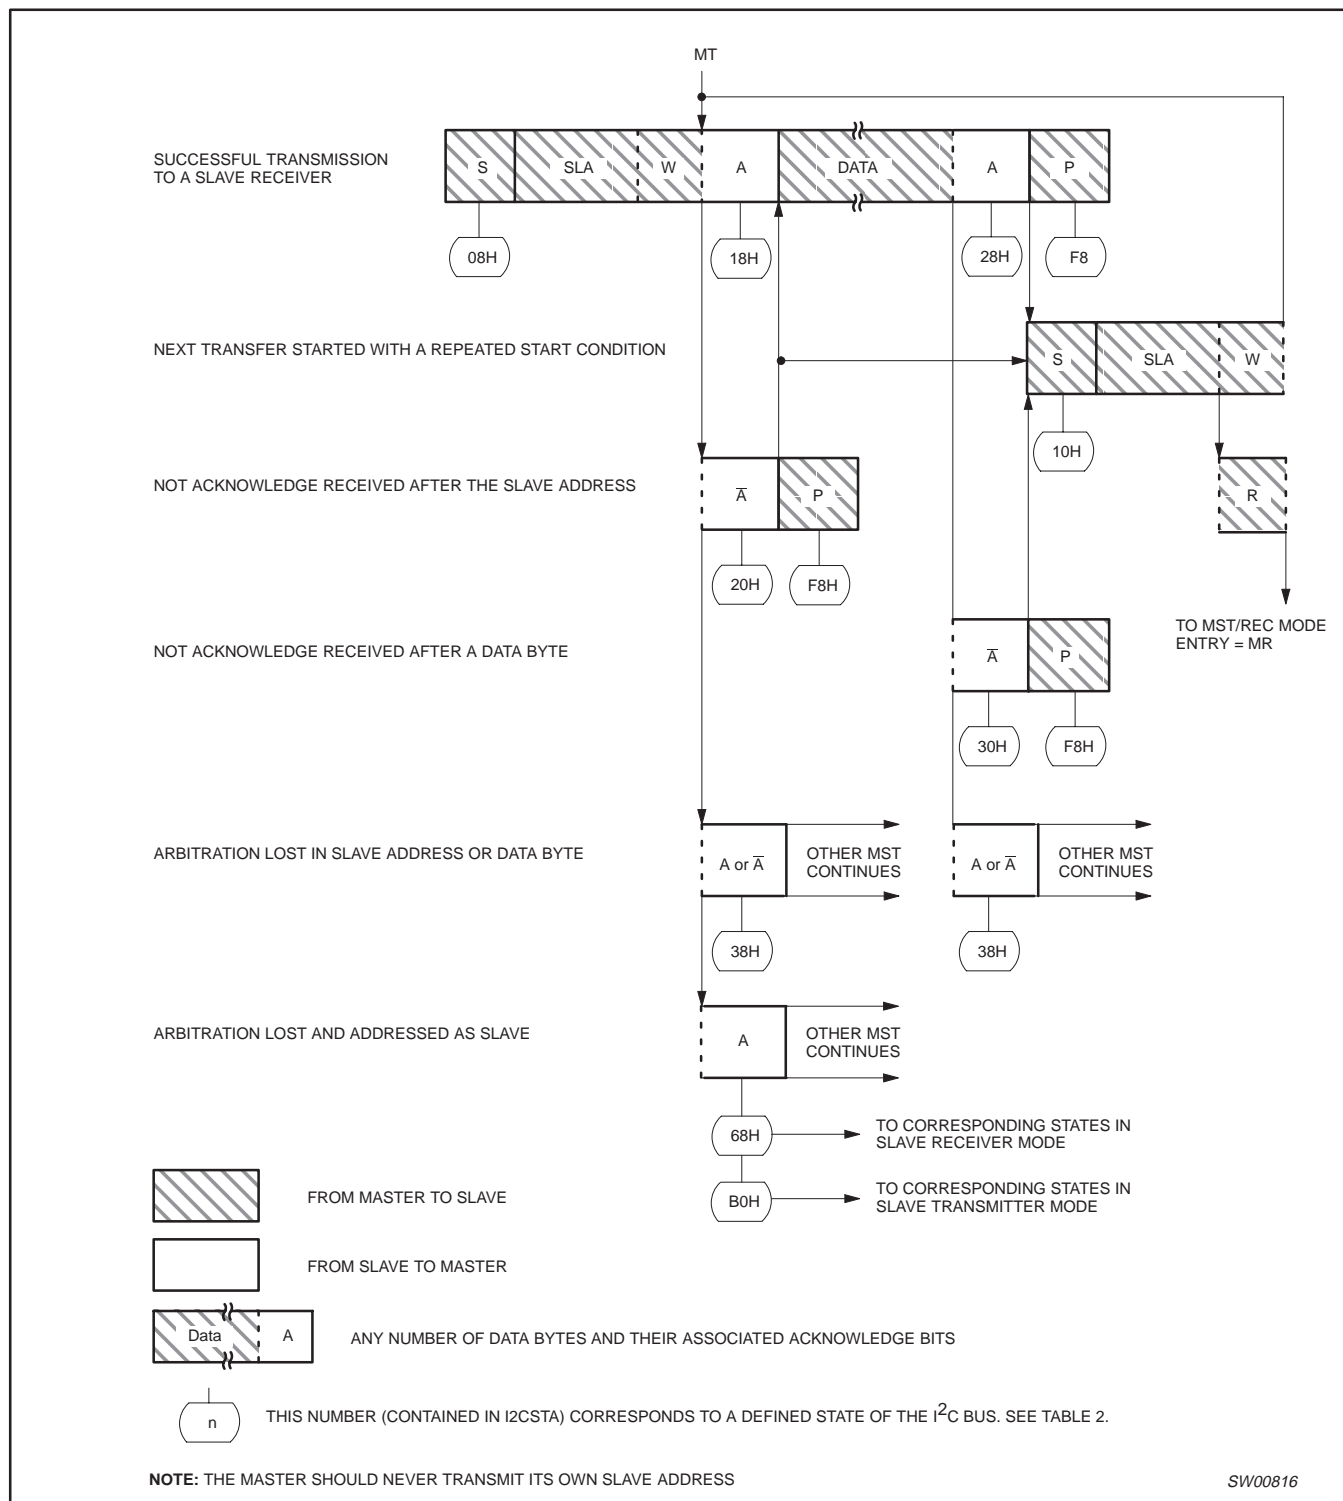

Figure 2. Format and states in the master transmitter mode
Data transfers in each mode of operation are shown in Figures 2–5. These figures contain the following abbreviations:
**Master Transmitter Mode:** In the master transmitter mode, a number of data bytes are transmitted to a slave receiver (see Figure 2). Before the master transmitter mode can be entered, I2CCON must be initialized as follows: